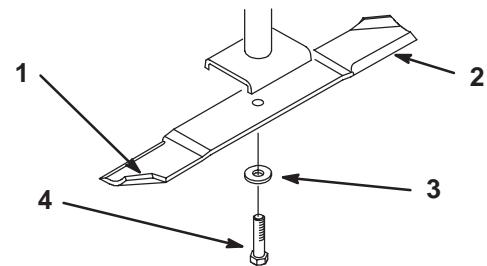
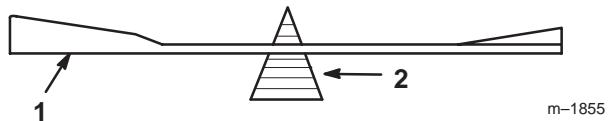

Figure 19
Figure 21
Hold the blade end using a rag or thickly-padded glove. Remove the blade bolt, spring disk and blade from the spindle shaft (Fig. 19).
2. Check the balance of the blade by putting it on a blade balancer (Fig. 21). If the blade stays in a horizontal position, the blade is balanced and can be used. If the blade is not balanced, file some metal off the end of the sail area only (Fig. 19). Repeat this procedure until the blade is balanced.
1. Install the blade onto the spindle shaft (Fig. 19).
2. Install the flat washer, lock washer and blade bolt (Fig. 19). Torque the blade bolt to 85–110 ft-lb (115–150 N•m).